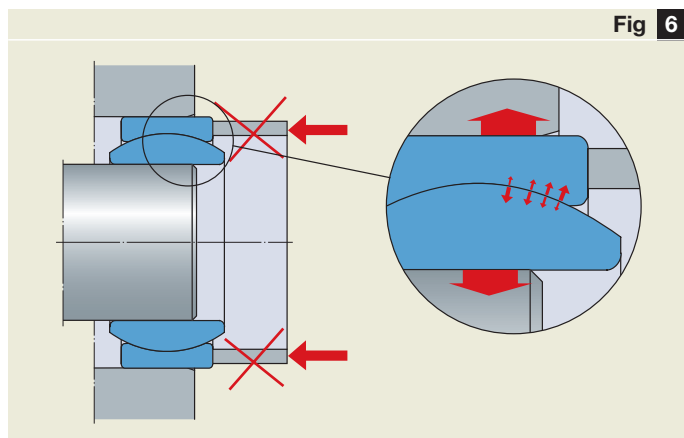

Fig 6
- all SKF steel-on-steel rod ends can be relubricated via a lubrication hole or grease nipple in the rod end housing as well as via the inner ring (→ **fig 6**) with the exception of the small-sized rod ends of the E and ESA designs;
- the mounting force should never be directed through the sliding contact surfaces (→ **fig 6**); this could